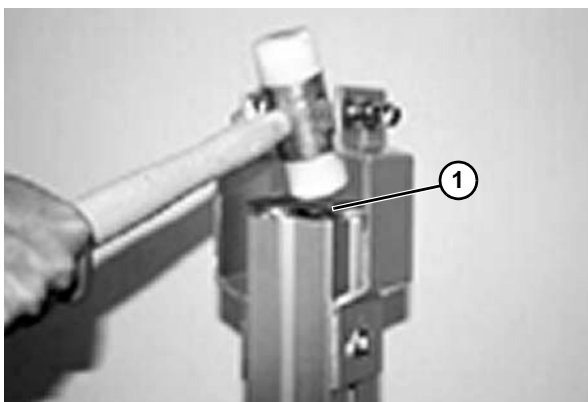

Figure 19
3. Use a soft hammer or mallet to mount an end cap (**Figure 19, item 1**) on to the support beam.